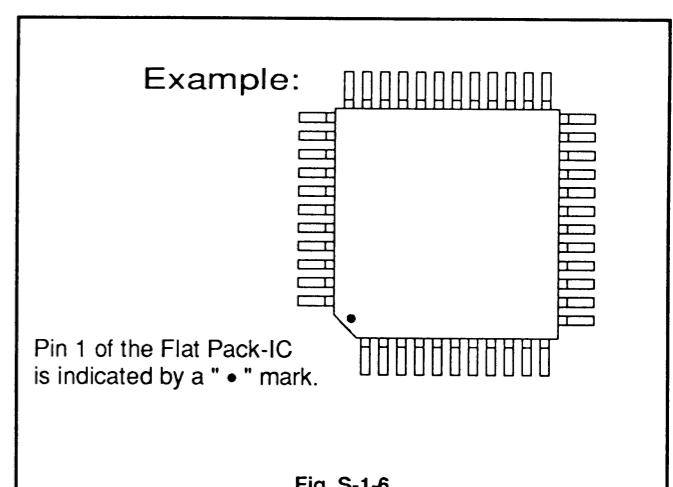
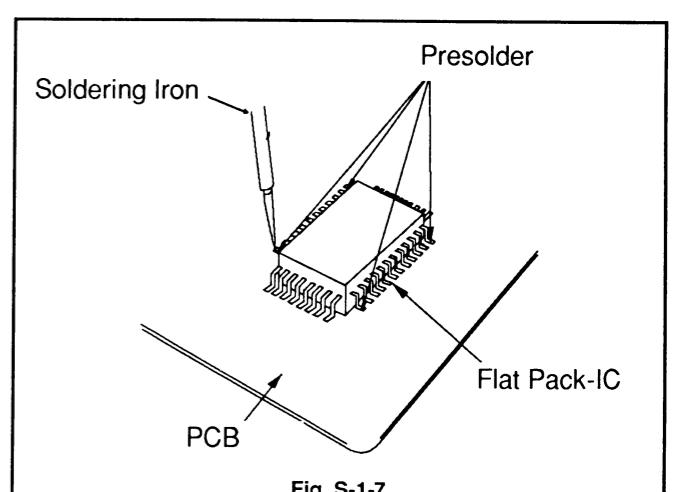

Fig. S-1-6
Fig. S-1-7
- The "•" mark on the flat pack-IC indicates pin 1. (See Fig. S-1-6.) Be sure this mark matches the 1 on the PCB when positioning for installation. Then pre-solder the four corners of the flat pack-IC. (See Fig. S-1-7.)